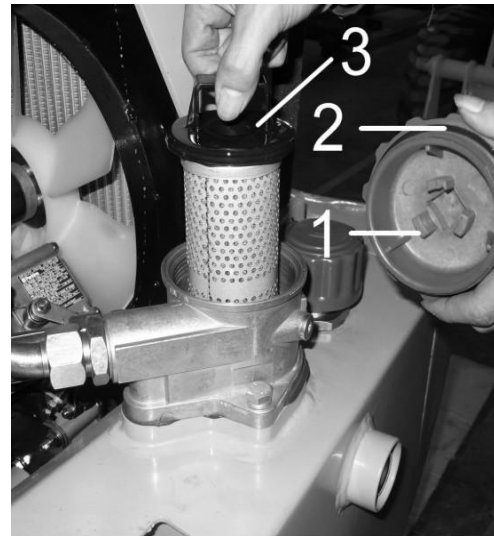

Fig. C-46
1. Unscrew the cover (Fig. C- 46/1). Remove the filter cartridge (Fig. C- 46/3).
3. Check the seal (Fig. C- 46/2). Replace the seal, if damaged.
6. Unscrew the cover (Fig. C- 46/1). Clean the bottom of the tank and the inner surfaces with hydraulic oil or scavenge oil. Screw on drain plug.